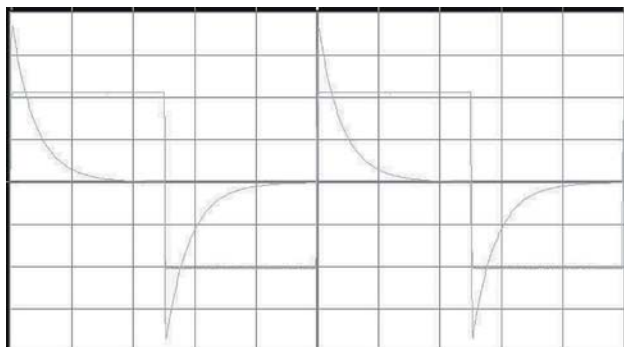

Fig. 6—Current waveform
2. You should see the “wild” exponentials as in Fig. 6. The current is not continuous from one step of the input to the next. Why?